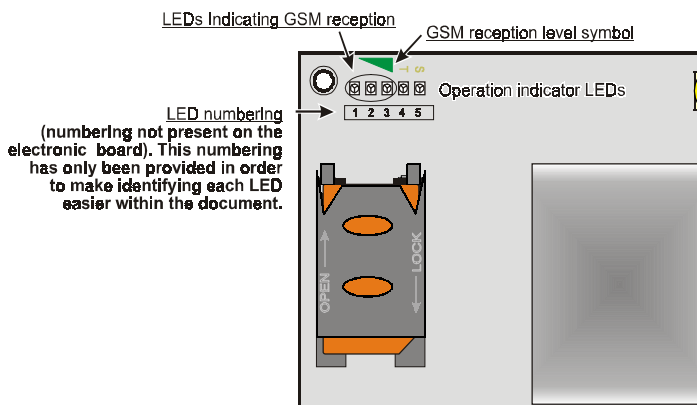

Fig. 5 - Operation indicator LEDs
There are 5 LEDs on the PCB: three green LEDs (1, 2 and 3), one yellow LED (4) and one red LED (5). These indicate connection, transmission and malfunctioning statuses (see Figure 5).
GREEN — The three green LEDs (1, 2 e 3) indicate the strength of the GSM signal, as shown in Figure 5: